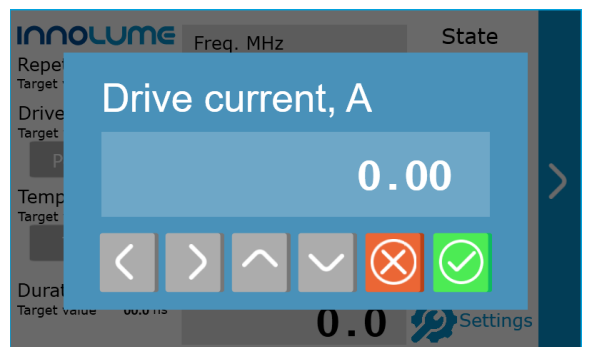

Figure 32 – Driver current setting
11. Tap on driver current value to set the laser diode operating current (fig. 32). Use the left and right arrows to select the digit to change, use the up and down arrows to change the value. Press button to save the changes and exit menu. Press button to exit menu without changes. **Note:** In pulse mode the laser diode current can significantly exceed the CW operating current, however, this can lead to accelerated degradation of the laser diode.